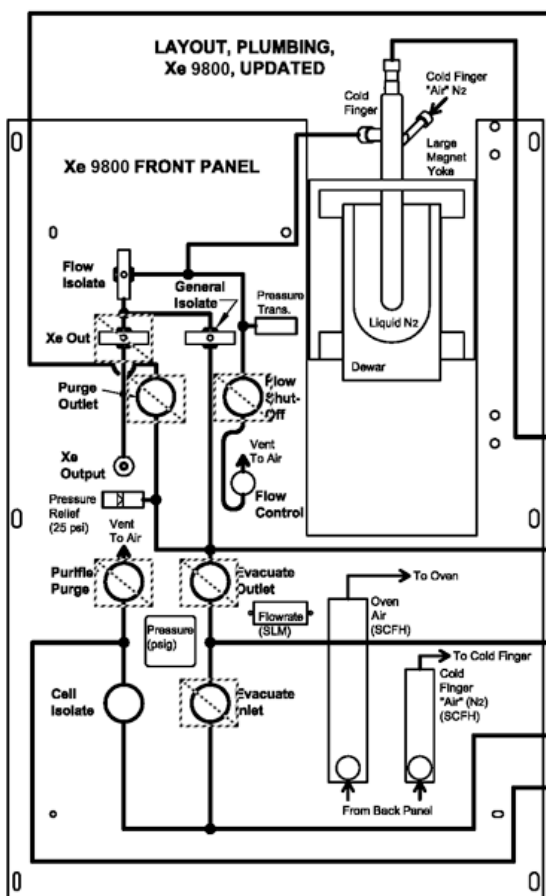

Figure 4: Xenon 9800 polarizer front panel
2. Check that all valves are in the proper initial configuration. (See **Figure 4.**)